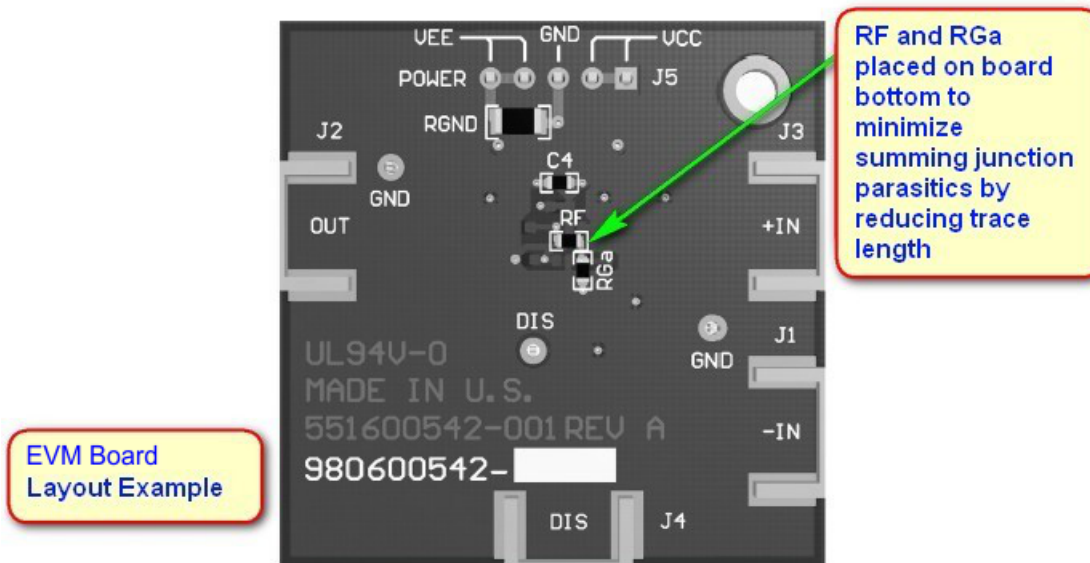

Figure 29. LMH6702-MIL Evaluation Board Layer 2
- The input summing junction is very sensitive to parasitic capacitance. Connect any R_f , and R_g elements into the summing junction with minimal trace length to the device pin side of the resistor, as shown in Figure 29. The other side of these elements can have more trace length if needed to the source or to ground.